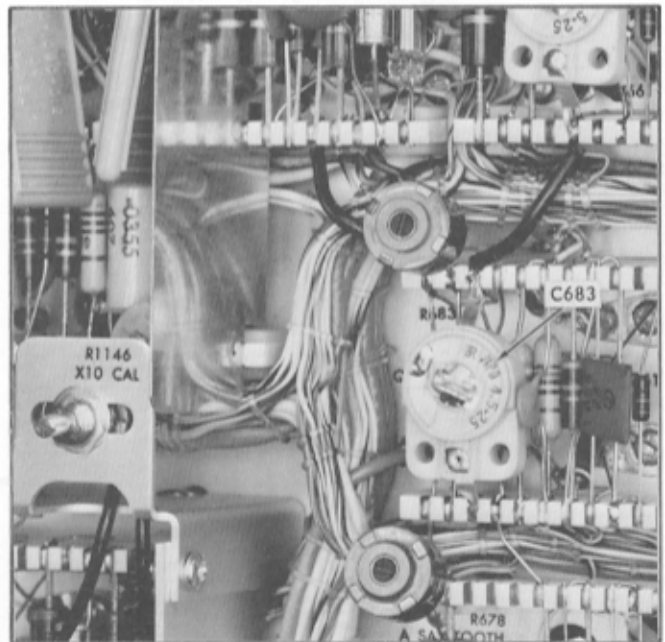

Fig. 6-51. Location of sweep crossover adjustment for serial numbered instruments 2000 and up.
- e. Adjust C683 (see Fig. 6-51) to obtain a 1 marker/cm display on the lower beam. Tolerance: within $\pm 3\%$ or ± 2.4 mm.